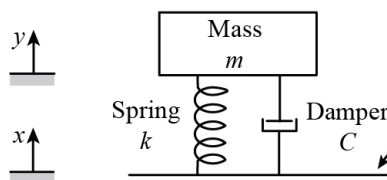

Figure 2: A single mass-spring-damper system
Consider the simple mass-spring damper system shown in Figure 2 below:
In Figure 2:
1. Draw a free-body diagram showing all the forces acting on the mass m shown in **Figure 2**.
2. From the earlier description, diagrams and the laws of Physics, **show that** the motion of the system in Figure 2 can be described by the LCCDE (linear constant-coefficient differential equation) below: